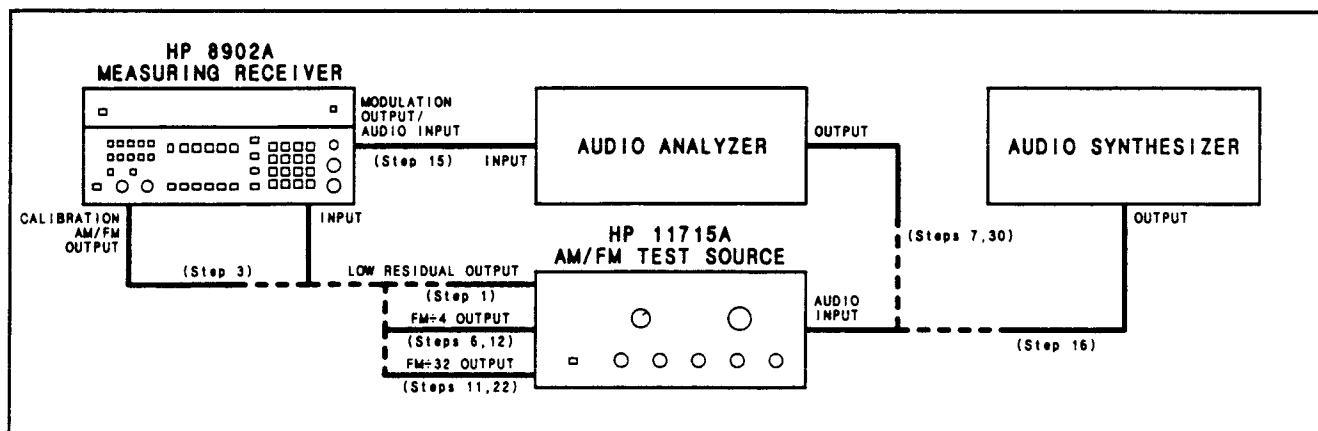

Figure 4-2. FM Performance Test Setup
1. On the AM/FM test source, set the test mode to residual FM. Connect its low-residual (560 MHz) output to the Measuring Receiver's INPUT. (See Figure 4-2.)
3. Connect the Measuring Receiver's CALIBRATE AM/FM OUTPUT to the INPUT. (See Figure 4-2.)
6. On the AM/FM test source, set the test mode to FM. Connect its FM÷4 output to the Measuring Receiver's INPUT. (See Figure 4-2.)
7. Set the audio analyzer's oscillator to 10 kHz at 1V. Connect its output to the audio input of the AM/FM test source. (See Figure 4-2.)
11. Connect the FM÷32 output of the AM/FM test source to the Measuring Receiver's **INPUT** without disturbing the AM/FM test source's controls. (See Figure 4-2.) Multiply the displayed ratio on the Measuring Receiver by the calibration factor of step 4. (For example, if the display reads 12.52% REL and the calibration factor of step 4 is 100.4%, the result is $12.52 \times 100.4 = 12.57\%$ REL.) The result should be between 12.35 and 12.65% REL.
12. Connect the FM÷4 output of the AM/FM test source to the Measuring Receiver's **INPUT**. (See Figure 4-2.)
15. Connect the audio analyzer's input to the Measuring Receiver's **MODULATION OUTPUT/AUDIO INPUT**. (See Figure 4-2.) Set the audio analyzer to measure the distortion on the 100 kHz signal at the **MODULATION OUTPUT/AUDIO INPUT** (all audio analyzer filters should be off). The distortion should be 0.1% or less (–60 dB or less).
16. Set the multifunction synthesizer to 10 kHz at +5 dBm. Connect its output to the audio input of the AM/FM test source. (See Figure 4-2.) Fine adjust the level for a Measuring Receiver display of 100 kHz times the calibration factor of step 5. (For example, if the calibration factor of step 5 is 100.4%, set the level for a display of 100.4 kHz.)
22. Connect the FM÷32 output of the AM/FM test source to the Measuring Receiver's INPUT. (See Figure 4-2.)
30. Set the audio analyzer's oscillator to 10 kHz at 4V. Connect its output to the audio input of the AM/FM test source. (See Figure 4-2.) Fine adjust the oscillator level for a Measuring Receiver display of 10 kHz peak deviation.